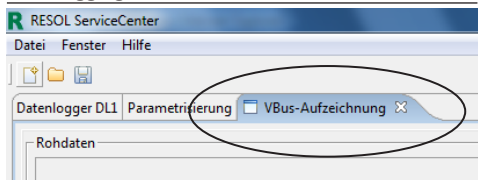

Fig. 1
- Click on the **VBus Logging** tab (Fig. 1)